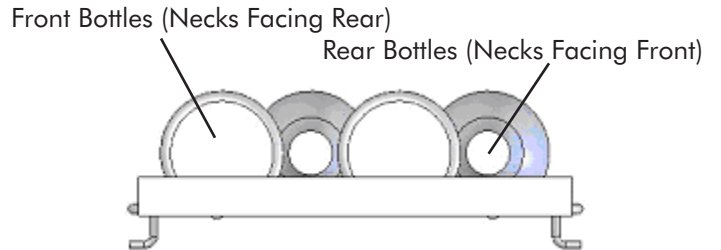

Figure 4
The wine rack pull-out shelf holds four (4) bottles. See Figure 4 for typical wine bottle orientation.